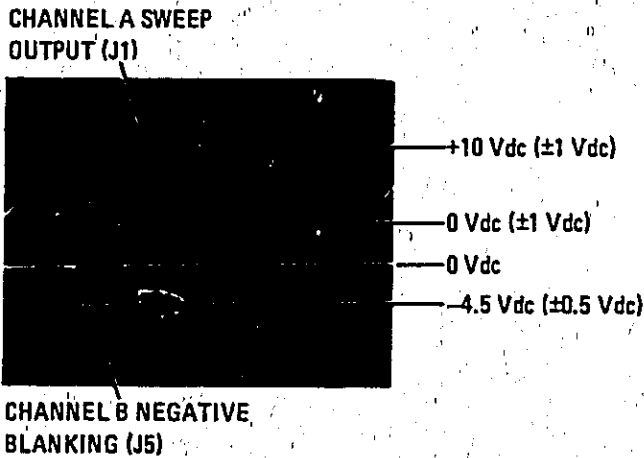

Figure 4-11. Negative Blanking at J5 Compared in Time to Sweep Output at J1.
- n. Adjust oscilloscope to display waveforms as shown in Figure 4-11.